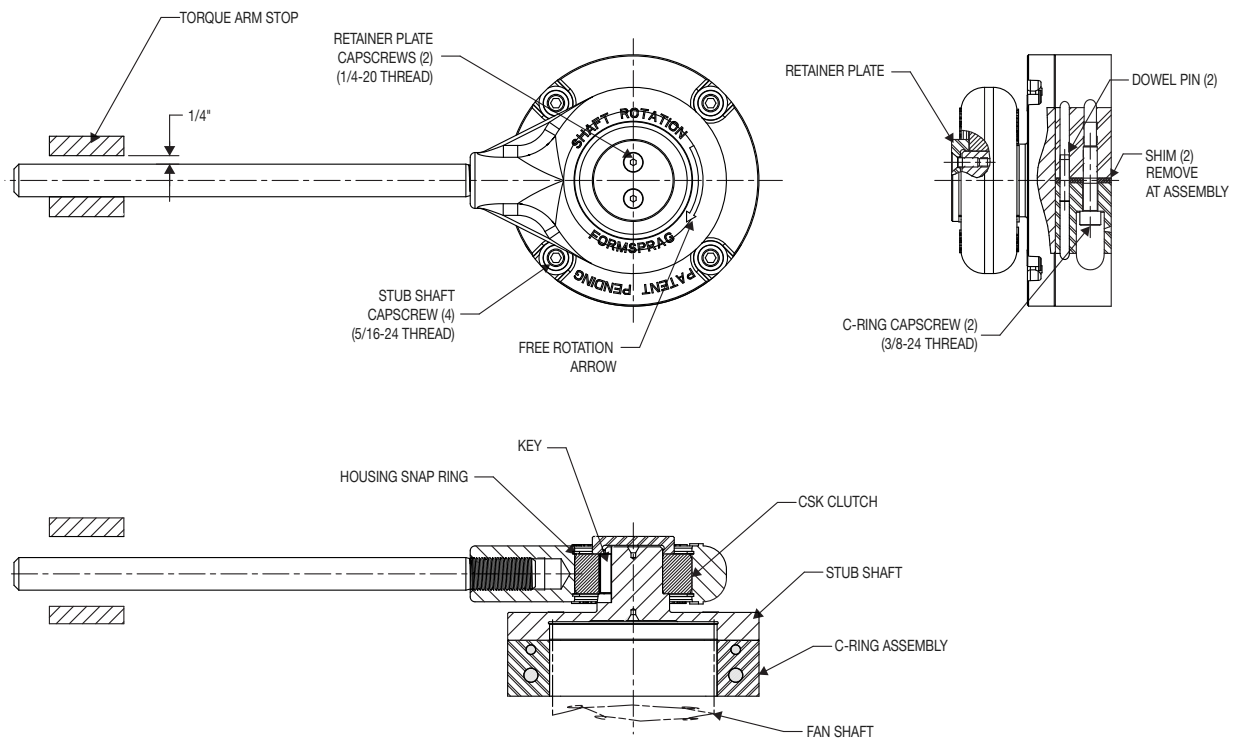

Figure 1
Review Figure 1 to identify the nomenclature for the various components of the model FB Backstop. Remove the retainer plate from the stub shaft adapter by removing the 1/4-20 flat head screws. Slide the backstop housing off the stub shaft adapter. Retain the key and screws for later reassembly.
- b. Torque arm stops. Ensure that appropriate equipment frames or structures are available for fastening stops for the backstop's torque arm as shown in the Figure 1.